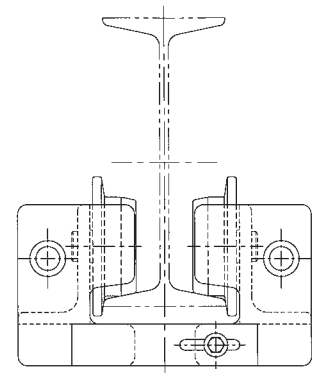

Figure 4 — Bottom Running
1. Place the adjustable end truck on one of the parallel I-beams. Loosen the $\frac{1}{2}$ " bolt located in the slot at the end of the truck. Move the two (2) end truck halves so that there is $\frac{1}{8}$ " clearance between the wheel flange and the beam flange on each side. Tighten the bolt to 85 foot-pounds torque. Repeat procedure for the other end of the truck. **The bolt must be tight or the truck might come off the beam.** Repeat the above procedure on the second end truck included with your kit (See Figures 4 and 5).
2. Position the trucks directly opposite one another on their runways. Be sure each truck is centered on the beam/rail, not riding toward either side. Carefully measure the distance between the eight (8) holes for